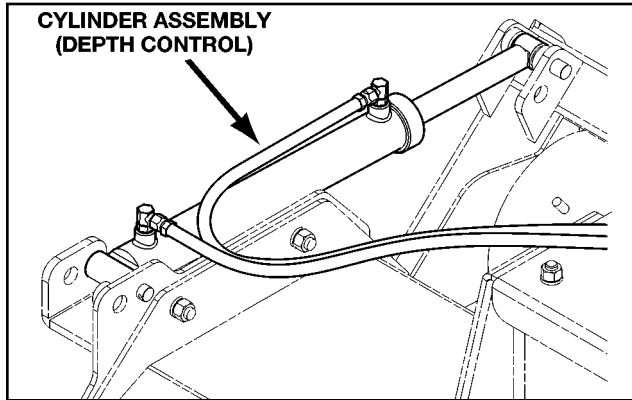

FIGURE 7 Hydraulic Depth - Cylinder Assembly
- 1. Depth Cylinder Function** – The depth control cylinder adjusts the depth that the rotor tills the soil. Retracting the depth control cylinder allows the rake to work deeper, moving more soil. Extending the depth control cylinder raises the rake, keeping the rotor depth shallow. (See Figure 7).